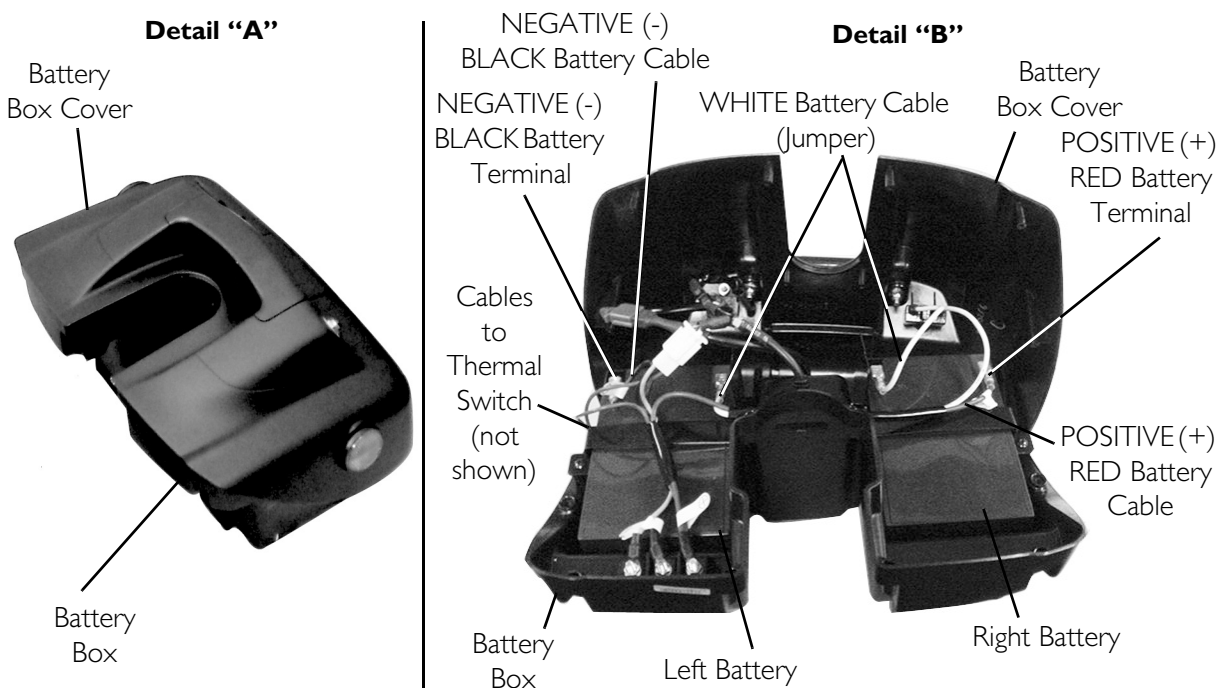

FIGURE 10.3 Removing/Installing the Batteries
When connecting the battery cables to the batteries, the battery cables **MUST** be connected to the battery terminals/posts as shown in **FIGURE 10.3** - otherwise damage to the battery may result.
NOTE: For this procedure, refer to FIGURE 10.3.
3. Remove the twelve mounting screws (not shown) that secure the battery box top to the battery box (Detail "A" of FIGURE 10.3).
4. Disconnect the wiring harness from the batteries by holding the connectors and pulling them in the following order (Detail "B" of FIGURE 10.3):
3. Connect the wiring harness to the batteries in the following order (Detail “B” of FIGURE 10.3):
4. Replace the top of the battery box and secure with the twelve mounting screws (Detail “A” of FIGURE 10.3). Securely tighten.